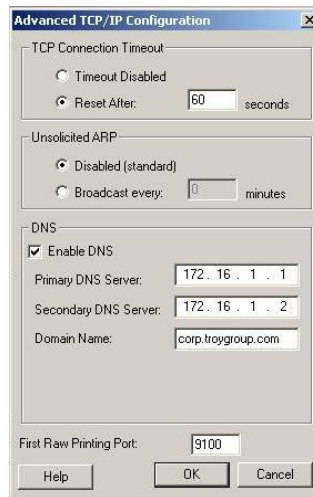

Figure 10 Advanced TCP/IP Configuration Window
7. Log into the SX-550 internal web pages using a standard web browser. Click **Server Settings** to access the screen shown in Figure 10. You can then enter the relevant SNMP information for your network.